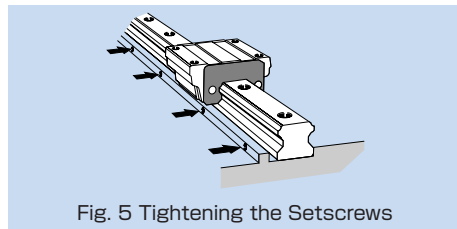

Fig. 5 Tightening the Setscrews
③ Secure the setscrews for the LM rail in order with a tightening force just enough to have the rail closely contact the side mounting surface (Fig. 5).